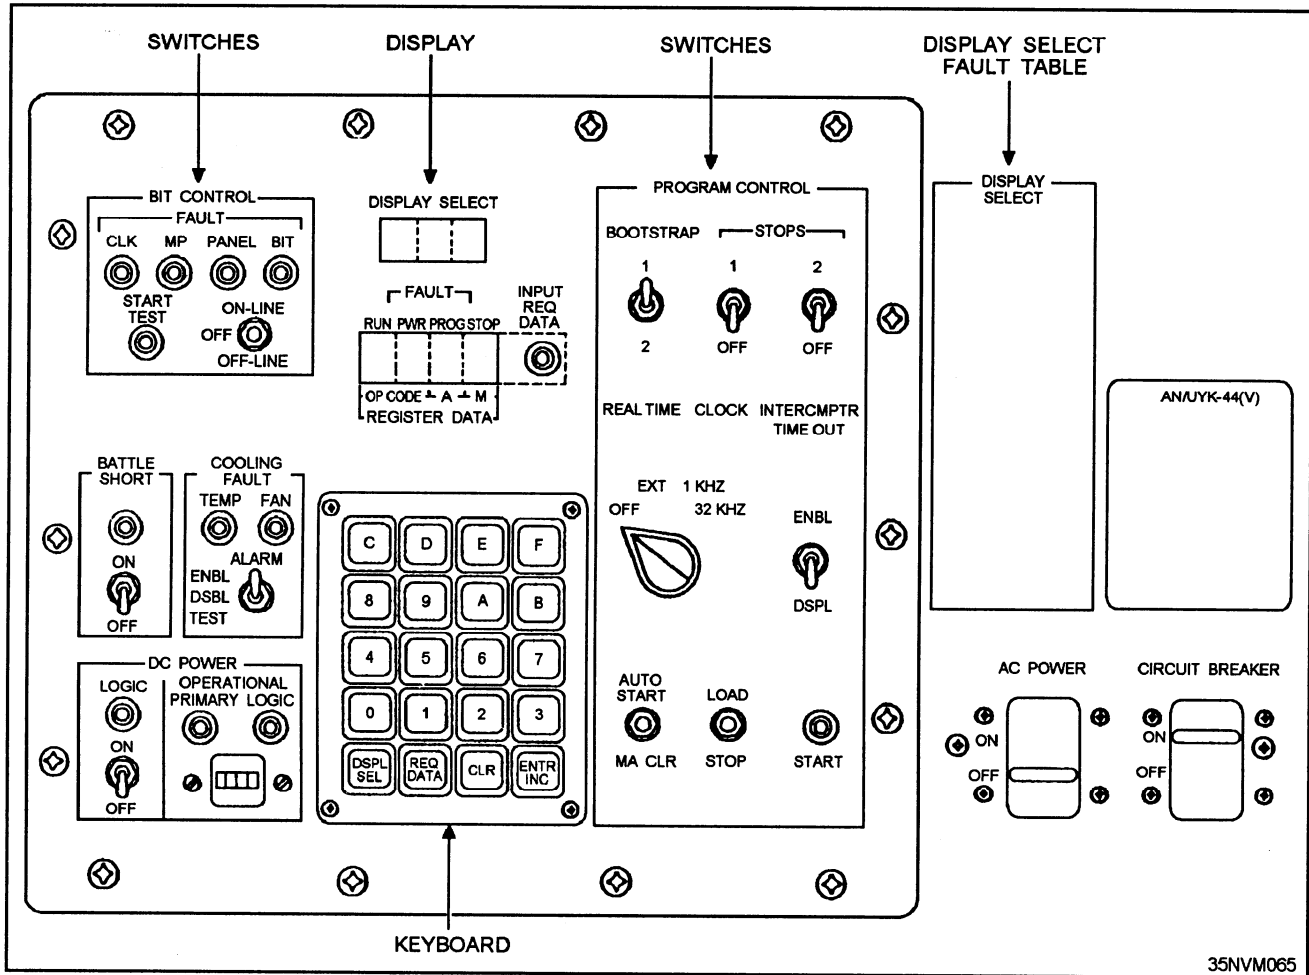

Figure 8-26.—Power up switches located on a maintenance control panel.
**APPLY POWER.**— Applying power to militarized minicomputers is somewhat more complicated than with commercially available micros. There can be a number of switches to power up the computer (fig. 8-26). Usually there is a remote panel that supplies power. Then at the unit itself there maybe a number of switches. Some use a circuit breaker that must be on before any of the other power switches will operate. Once the circuit breaker has been turned on,
have two panels, others one panel. When two are used, one panel is used for control and the other for maintenance. When one panel is used, the control and maintenance functions are located on the same panel. Refer again to figure 8-26. The panels on some minicomputers can be likened to the keyboard of a microcomputer; they deal primarily with the operating system and software programs. But with some minicomputers, you have more options. They include controls and indicators that deal with power and temperature. These two conditions were included in the apply power man/machine interface.
In addition to a number of control switches and indicator lamps, some minicomputers use a keyboard for data entry and numeric displays to show the contents of registers or display status. This is also illustrated in figure 8-26.
**EXECUTE BOOTSTRAP.**— Minicomputers are normally designed to boot or initially load the operating system program using a hardwired module (NDRO) located in the CPU. The NDRO is tailored at the factory and will select a particular peripheral device (disk, tape, and so forth) based on the position of the bootstrap switch located on the computer's controlling panel. Figure 8-26 shows a maintenance control panel with a bootstrap switch with two positions (1 or 2). The bootstrap program allows a more comprehensive program to be loaded from the selected peripheral into main memory and be executed. NDROs are also designed to perform a BIT, fault analysis program, or load a failure analysis program. To execute bootstrap, depress the run or load switch.